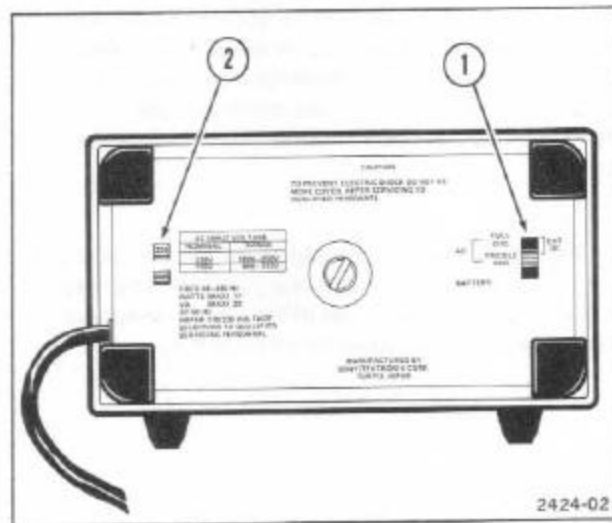

Figure 2. View of rear cover.
**1. Power Source Selector switch**—Three position switch provides operator selection of ac line voltage, external dc voltage or battery operation. The ac position, in conjunction with the AC Input Voltage Selector switch, allows the 305 to be operated over a range of ac line voltages. Power Source Selector switch also provides operator selection of a Full or Trickle charge rate to internal batteries (Figure 2).
**2. AC Input Voltage Selector switch**—In conjunction with the Power Source Selector switch, allows the instrument to be operated from 115 or 230 nominal ac line voltage (Figure 2).